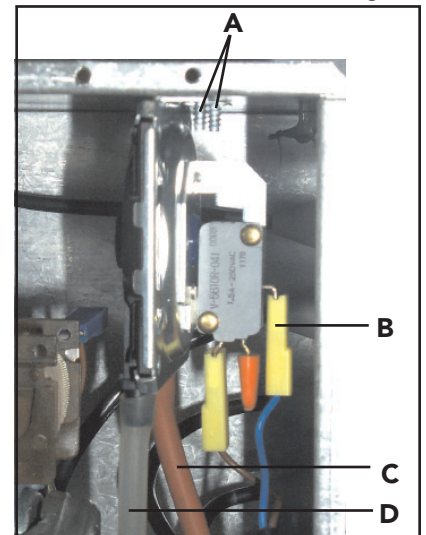

Fig. 24
Air pressure switch (fig. 24)
- Identify the sensor from figure 24